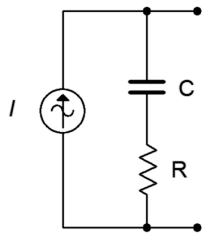

Figure 5.39
67. Design an equivalent voltage source for Figure 5.39. $I = 300E-3\angle 0^\circ$, $R = 4.3\text{ k}\Omega$ and $X_C = -j5\text{ k}\Omega$.
68. Design an equivalent voltage source for Figure 5.39 if $I = 100E-3\angle 120^\circ$, $R = 75\ \Omega$ and $L = 1\text{ mH}$. The source frequency is 10 kHz.